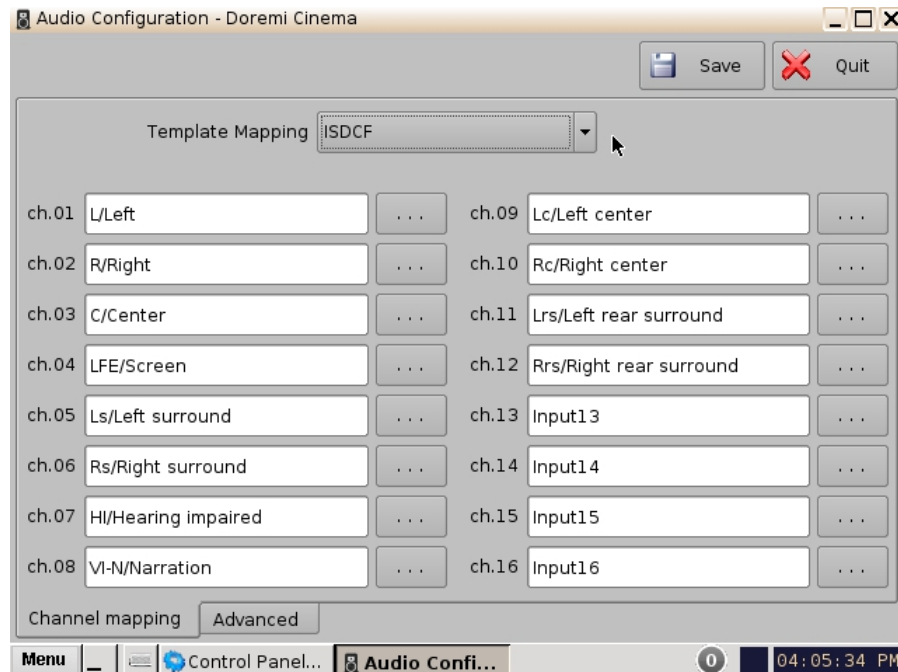

Figure 35: Audio Mapping Set to ISDCF
- This configuration is defined as follows (Figure 35):
- **ch.01 is Left (L):** Output ch.01 will be playing the CPL's Left (L) audio channel.
- **ch.02 is Right (R):** Output ch.02 will be playing the CPL's Right (R) audio channel.
- **ch.03 is Center (C):** Output ch.03 will be playing the CPL's Center (C) audio channel.
- **ch.07 is HI:** Output ch.07 will be playing the CPL's Hearing Impaired (HI) audio channel.
- **ch.08 is VI:** Output ch.08 will be playing the CPL's Narration (VI) audio channel.